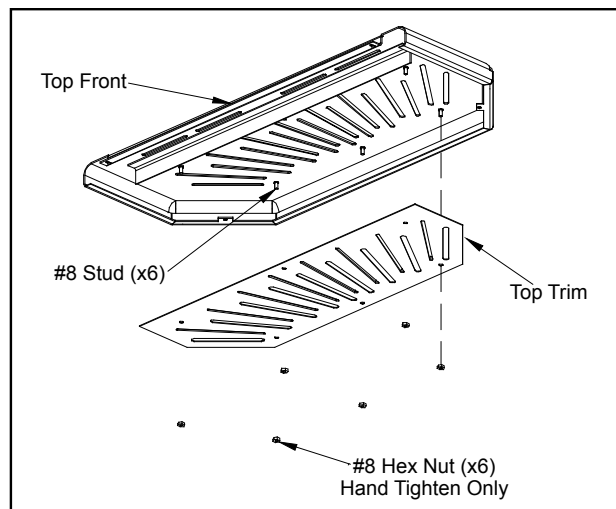

Figure 44: Top front with top trim
Place the new trim on its corresponding studs (see Figure 44) and finger tighten the six (6) #8 hex nuts.